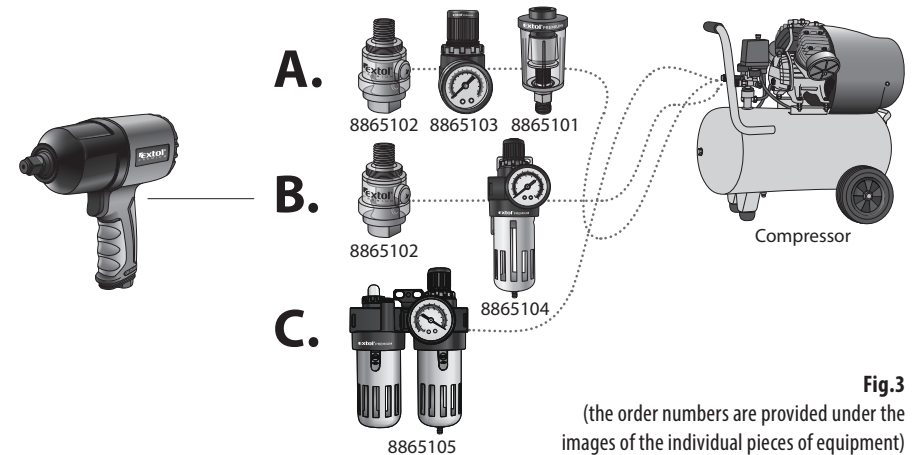

Fig.3
- The air impact wrench is powered by compressed air that must be free of moisture-condensate and must contain a pneumatic oil additive. For this purpose, there is peripheral equipment pictured and described in the diagram on fig. 3, which must be installed in front of the air flowing into the impact wrench in the provided order.
Order number of equipment (fig.3)	Description of equipment (treatment units)
### POSSIBLE METHODS OF CONNECTION (SEE DIAGRAM IN FIG. 3)
- The order of the treatment equipment in the diagram in fig. 3 must be maintained during connection.